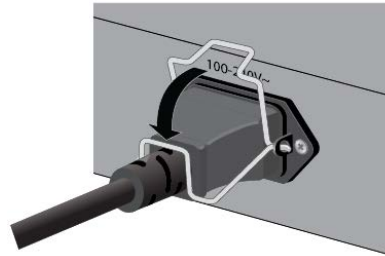

Figure 54. Lowering the Power Cord Retaining Clips
3. Lower the power cord retaining clip to secure the cord to the switch. Refer to Figure 54.